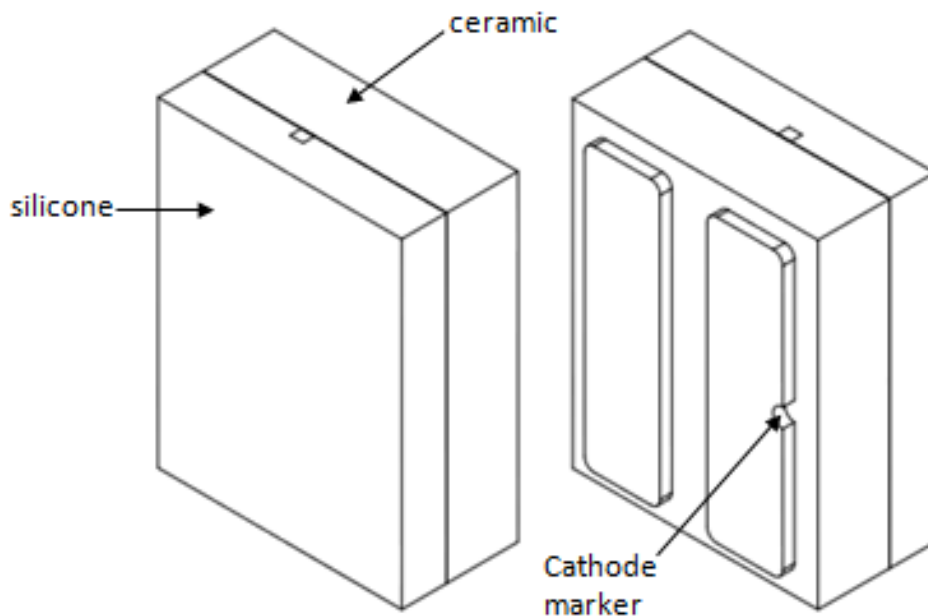

Figure 1. 3D renditions of LUXEON Z UV. Top view (left) and bottom view (right).
The LUXEON Z UV emitter is an ultra-compact, surface mount, high-power ultra-violet (UV) LED with peak wavelength ranging from 380nm to 430nm. Each LUXEON Z UV emitter consists of a high brightness InGaN chip on a ceramic substrate. The ceramic substrate provides mechanical support and provides a thermal path from the LED chip to the bottom of the emitter. An interconnect layer electrically connects the LED chip to cathode and anode pads of equal size on the bottom of the ceramic substrate. The cathode of the LUXEON Z UV emitter is marked with a small notch in the center of the electrode (see Figure 1).
All LUXEON Z UV emitters contain a transient voltage suppressor (TVS) chip which protects the LED chip against electrostatic discharge (ESD) events. The top surface of the LUXEON Z UV emitter has a flat top surface as shown in Figure 1.